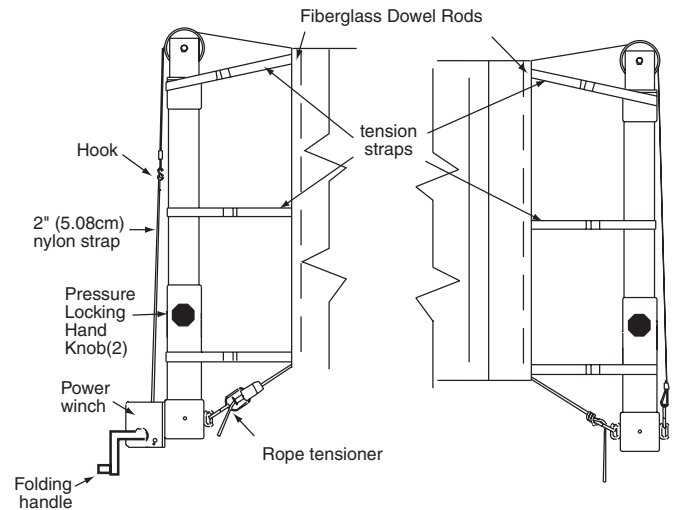

Figure 3
- ④ Install standards in floor sleeves.
- ⑤ Set post to desired height by loosening pressure-locking hand knob and slide top tube to desired net height. NOTE: Proper height is stamped on side of post.
- ⑥ Measure distance from finished floor to top of sheave. This dimension should be 3/4" (2 cm) higher than required net height. If necessary, remove standard from sleeve and adjust rubber bumper until desired height is reached.
- ⑦ Unroll net on floor between standards.
- ⑧ Install 1/2" fiberglass rods in ends of net (see Fig. 3).
- ⑨ Unspool the 2" nylon strap from winch. Hook one end of the top net cable in hook on belt. Hook opposite end of top net cable to cable anchor collar on the other standard (see Fig. 3).
- ⑩ Tighten net by turning winch handle clockwise. Measure distance from top of net to finished floor at the center of the net.
- ⑪ Wrap net straps once around standards and tighten using buckles (see Fig. 3).
- ⑫ Install tensioner to winch end of net rope by inserting rope through beveled end of tensioner. Tie a loop in other end of rope. Attach rope tensioner to winch and rope loop to cable anchor collar (see Fig. 3). Tighten by pulling on rope while holding tensioner.